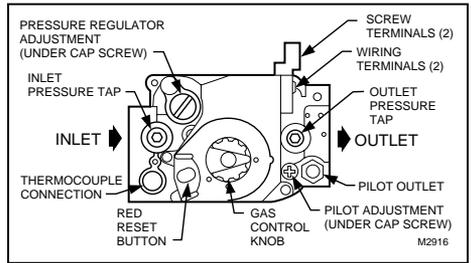

FIG. 4—TOP VIEW OF GAS CONTROL.
6. Connect pipe to control inlet and outlet. Use wrench on the square ends of the control. If a flange is used, place wrench on flange rather than control. Refer to Figs. 4 and 5.
3. Unscrew brass compression fitting from the pilot outlet (Fig. 4). Slip the fitting over the tubing and slide out of the way.
2. Connect control circuit to gas control terminals. Refer to Figs. 4 and 8.